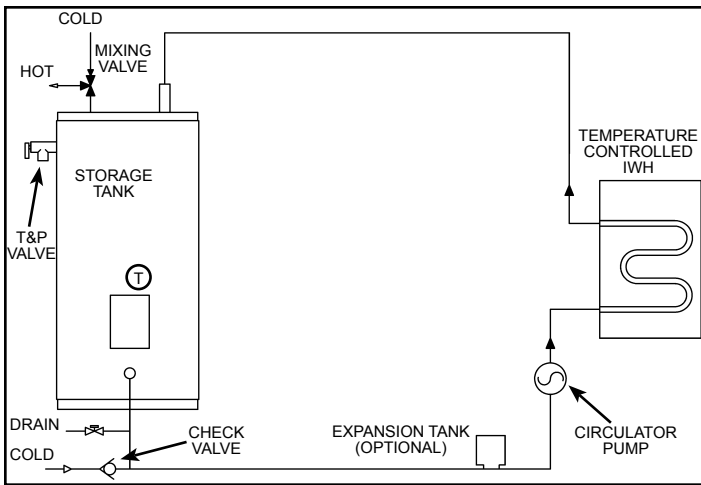
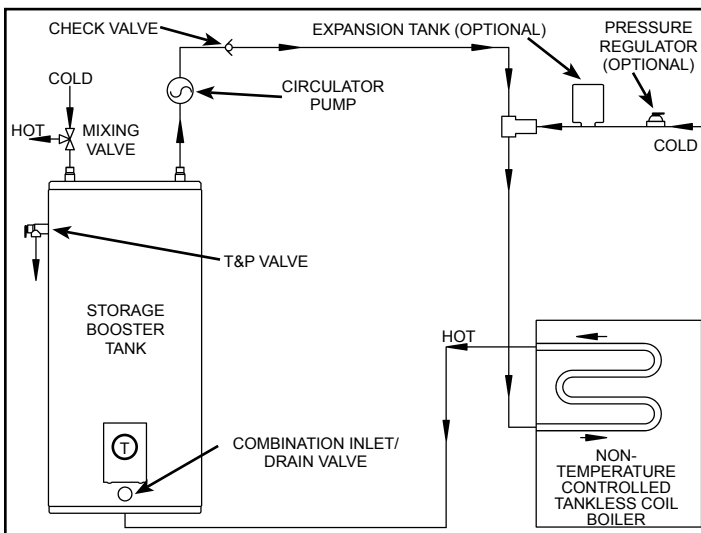

Figure 2. Single Storage Tank Plumbing for a Temperature Controlled IWH
Figure 3. Single Storage Tank Plumbing for a Non-Temperature Controlled Tankless Coil Boiler
For a temperature controlled instantaneous water heater it is recommended to install the plumbing as shown in Figure 2. It is also recommended to set-up and control the IWH outlet temperature to be at least 11°C (20°F) above tank thermostat temperature. The recommended plumbing installation for a tankless coil boiler is shown in Figure 3. In this case, because the tankless coil boiler is able to control only the differential between inlet and outlet temperature, the cold water entering the tankless coil boiler must be tempered with hot water from the storage tank. As there is a large variety of heat sources and control systems, please contact your local distributor for the plumbing system to identify the solution that best suits your application.
3. If the heating source is a tankless coil boiler go to Step 4. If a temperature controlled IWH is used as a heat source, install the combination inlet/drain valve in one "arm" of a tee connected to the lower storage tank fitting. Connect the cold water supply piping to the inlet of the combination inlet/drain valve. Connect the other "arm" of this tee to the IWH inlet line and place the circulating pump in this line. Connect the IWH outlet to the upper storage tank side fitting (see Figure 2). Proceed to Step 5.
4. For a tankless coil boiler install the combination inlet/drain valve in the lower storage tank fitting. Connect the inlet of a combination inlet/drain valve to the hot outlet of the tankless coil boiler. In this instance the "leg" of a tee should connect to the cold water supply line, one "arm" connects to the circulator pump and the other "arm" to the inlet of the tankless coil boiler. The circulator pump connects to the upper side fitting of storage tank (see Figure 3).
9. The water utility supply meter may contain a check valve, back-flow preventer or water pressure-reducing valve. This will create a closed water system. During a heating cycle, water expands creating a pressure buildup in the water system. A Temperature and Pressure (T&P) Relief Valve must be installed (150 psi maximum pressure). See preceding section. If the T&P valve discharges periodically, it may be due to thermal expansion in a closed system. To prevent this condition and to reduce the possible buildup of lime on the T&P Relief Valve seat, install a thermal expansion tank in the circulating loop as shown in Figure 2 and Figure 3.